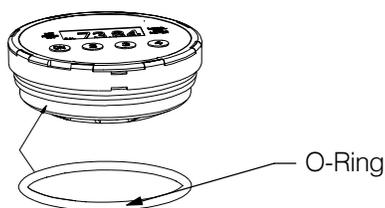

Figure 2
3. Re-install the o-ring on meter cover (see Figure 2).